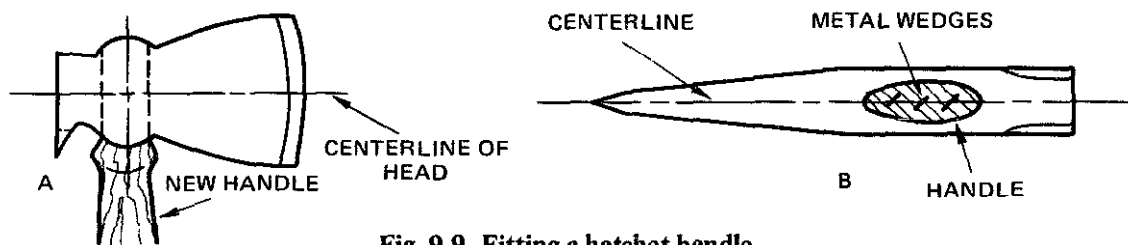

Fig. 9-9 Fitting a hatchet handle.
2. Shape the end of the handle so that when the head is fitted it will be square with relation to the handle. See figure 9-9. Shaping can be done with a coarse, flat crosscut file or with the spokeshave.
3. Insert the shaped end into the eye of the head. Fit it loosely enough to keep a center position as shown in figure 9-9.
4. Drive several metal wedges into the head end, A, figure 9-9.